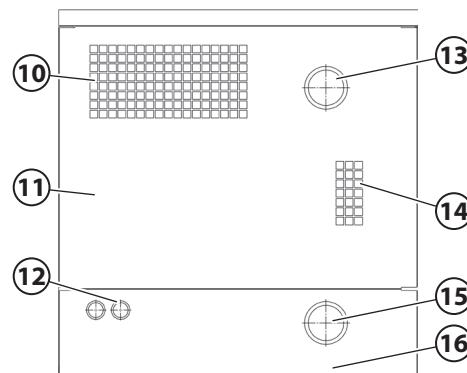

Fig.2
3.2 ROBOX ES (Fig.2)**3.2 ROBOX ES (Fig.2)****3.2 ROBOX ES (Fig.2)****3.2 ROBOX ES (Abb.2)****3.2 ROBOX ES (Fig.2)**